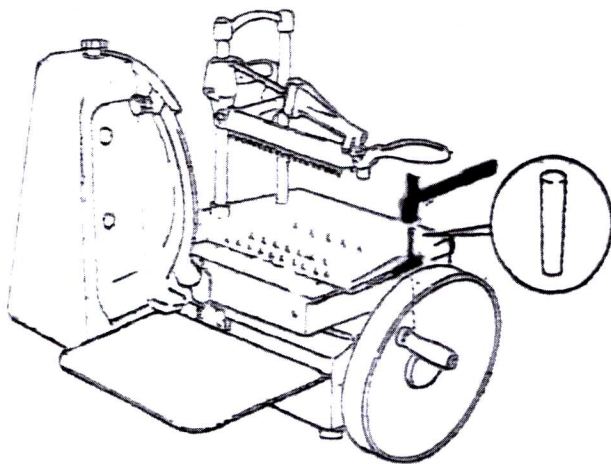

Fig. n.4
4. Insert the pin into the sleeve, as shown in Fig. n. 4, with the tapered end (smaller diameter) facing the sleeve itself. Beat the opposite end of the pin (greater diameter) with a hammer, plugging it completely (Fig. n.4).